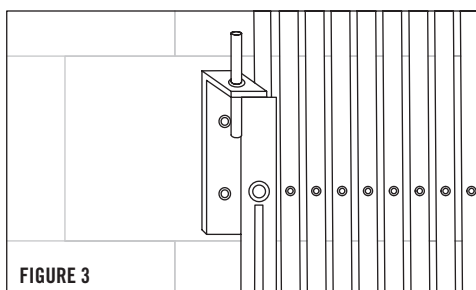

FIGURE 3
- 3) Extend gate and hang L-bracket on top of gate to verify where it will be mounted. To release tension you may lift the wheel 1/2" - 3/4" off the floor. Mark and drill pilot holes into door frame or wall. It may be easier to drill pilot holes if you remove the gate from its floor mount. Place bearing washer and bottom gate pin back into floor mount. Slip L-bracket over top of gate and bolt (not included.) (See Figure 3)